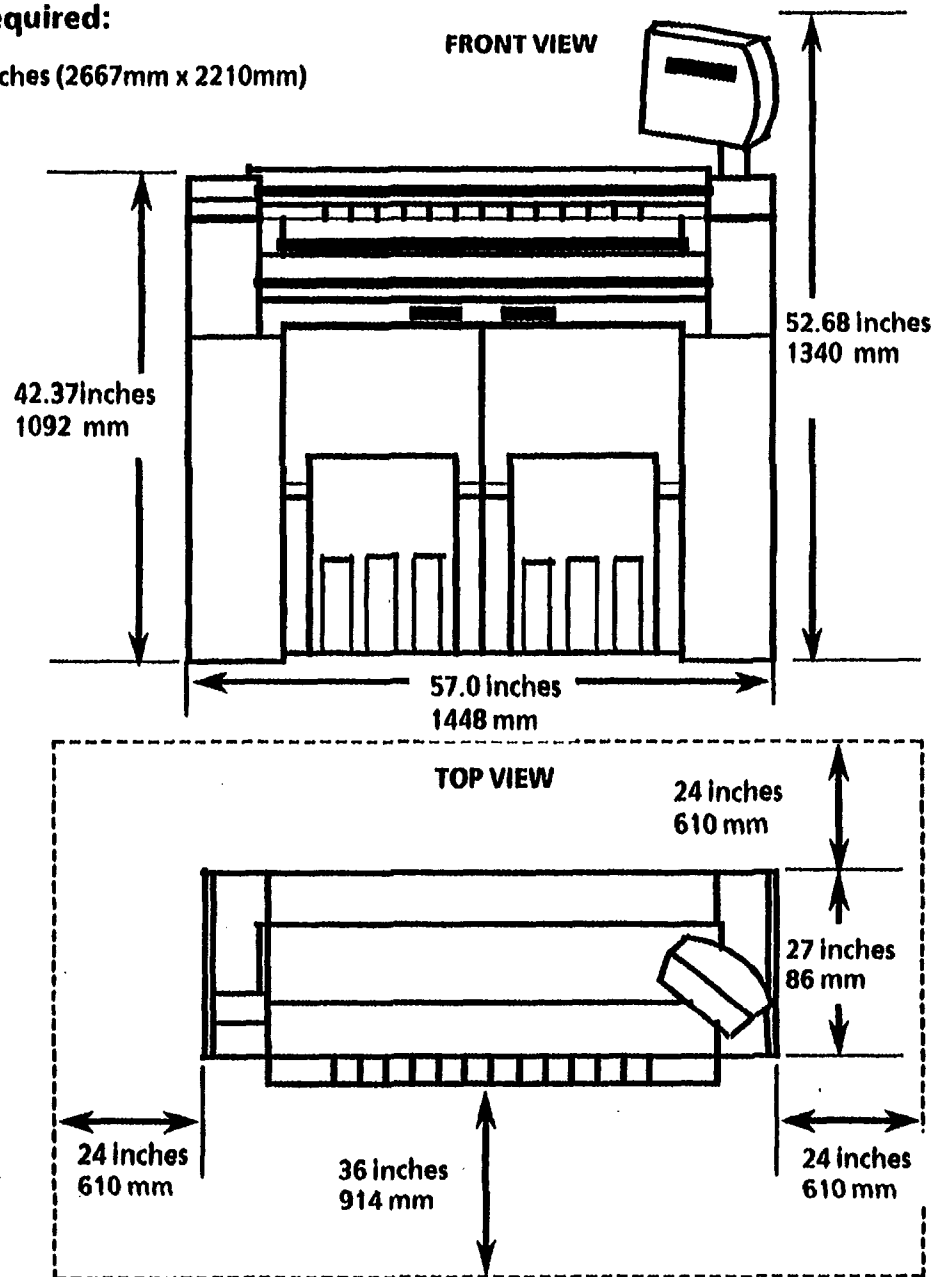

Figure 2. Minimum Space Requirements
2. (Figures 2): This shows the minimum allowable space requirements.